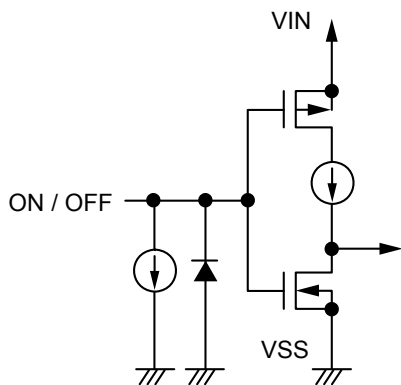

Figure 19 S-13R1 Series A / C type
Note that the current consumption increases when a voltage of 0.3 V to 1.0 V is applied to the ON / OFF pin. The ON / OFF pin is configured as shown in **Figure 19** and **Figure 20**.
*1. Note that the IC's current consumption increases as much as current flows into the constant current of 0.1 μA typ. when the ON / OFF pin is connected to the VIN pin and the S-13R1 Series A / C type is operating (refer to **Figure 19**).